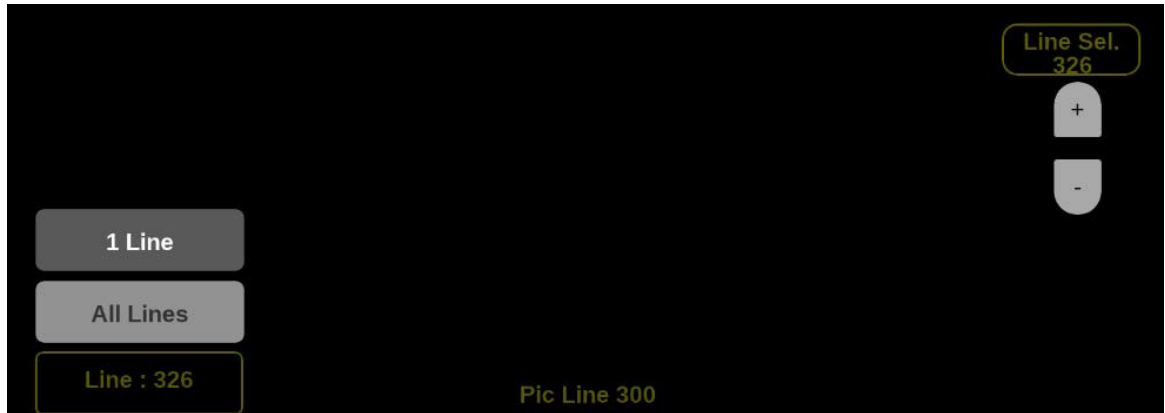

Figure 205: Stop Display on-screen tools – Line Select
If **1 Line** is selected then the display will only show results for the selected line in the picture. The line can be selected using the on-screen tools. (See Line Select function.) Or the line can be selected directly on the Picture. (See Figure 205.)
1. Select the **Lines** button at the bottom of the application. (See Figure 205.)